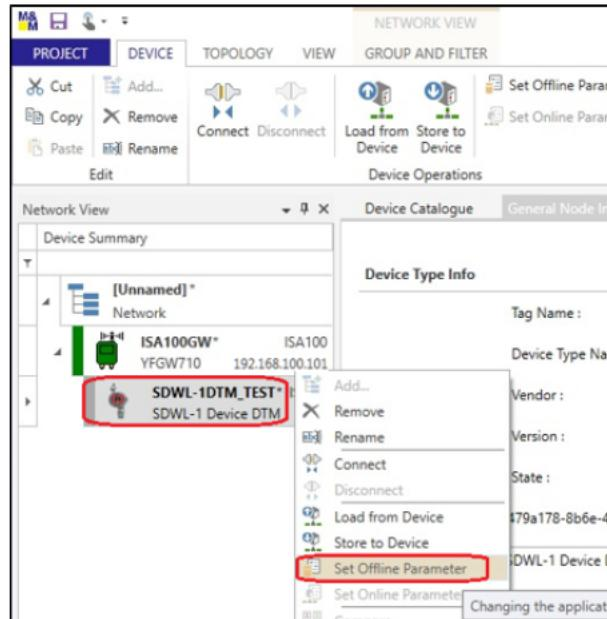

Figure 5-53 Selecting "Set Offline Parameter" menu
- ① Follow the instructions in the previous section (for launching online) as far as step ⑪.
- ② Right-click the SDWL-1 (tag name) in the tree menu on the left side of the main window, then select "Set Offline Parameter". (Figure 5-53)